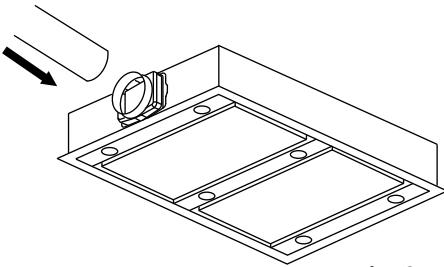

Fig 12
2. Mount the flexible or rigid ducting onto the plastic connector of the hood (Fig 12).